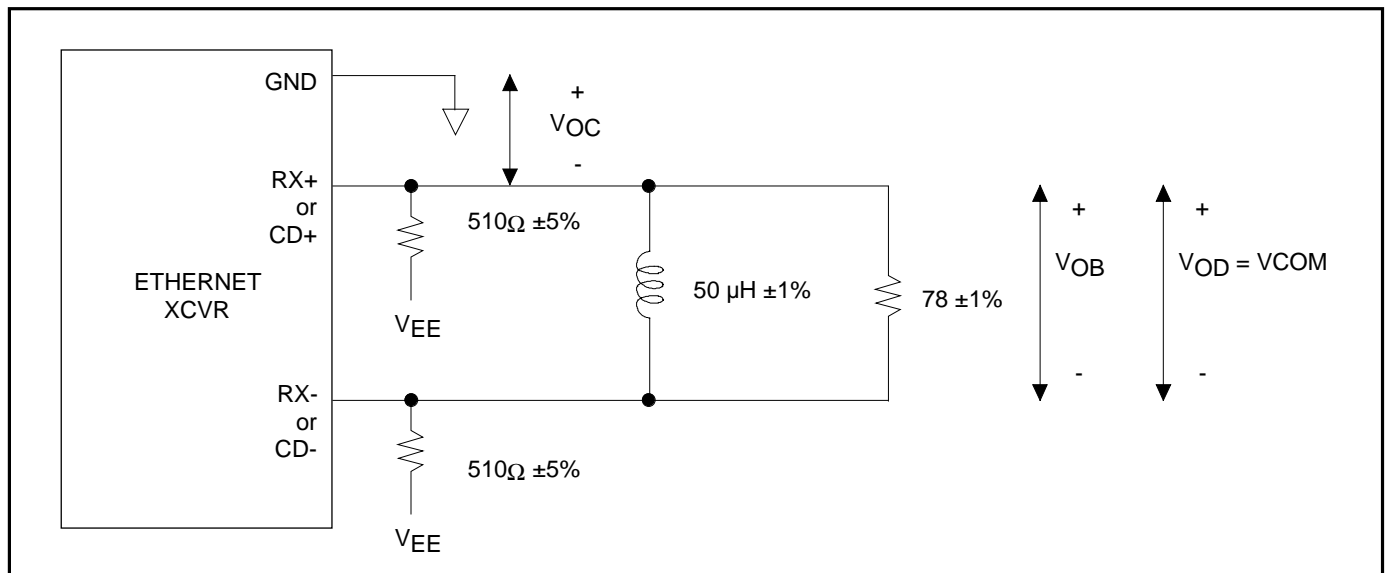

FIGURE 2: Test Load for CD_{\pm} or RX_{\pm}
7. Test load as shown in Figure 2.